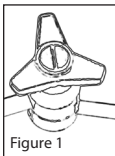

Figure 1
- When loosening, do not force the knob of the articulating arm past the stop. Doing so could damage the ball joint and affect the rigidity of the articulating arm (Figure 1).